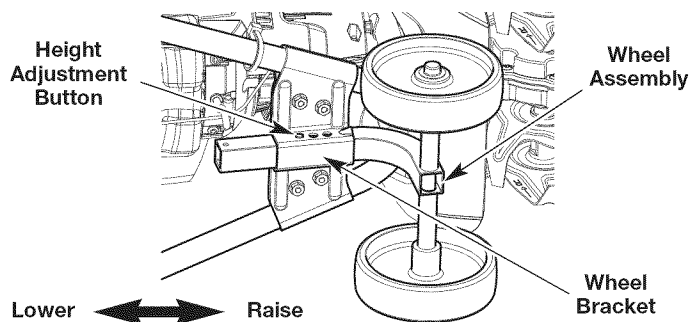

Fig. 1
1. Set the unit on its side (Fig. 1).
2. Insert the wheel assembly into the wheel bracket until the height adjustment button locks into place (Fig. 1).
2. Press the height adjustment button inward and move the wheel assembly until the height adjustment button locks into the desired hole (Fig. 1).